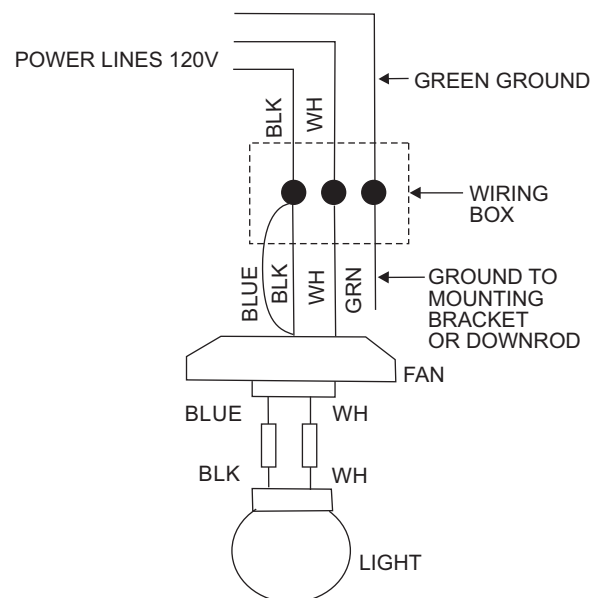

Figure 12
**Step 1.** Connect the fan supply (black) wire and light supply (blue) wire to the black household supply wire as shown in Figure 12.